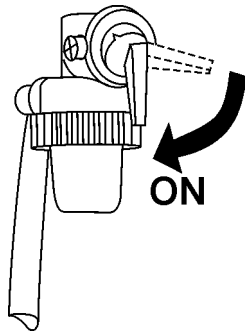

Figure 11. Engine Fuel Valve Lever (ON Position)
1. Place the engine **fuel valve lever** (Figure 11) to the "ON" position."
- Place the **main circuit breaker** (Figure 11) in the **OFF** position.